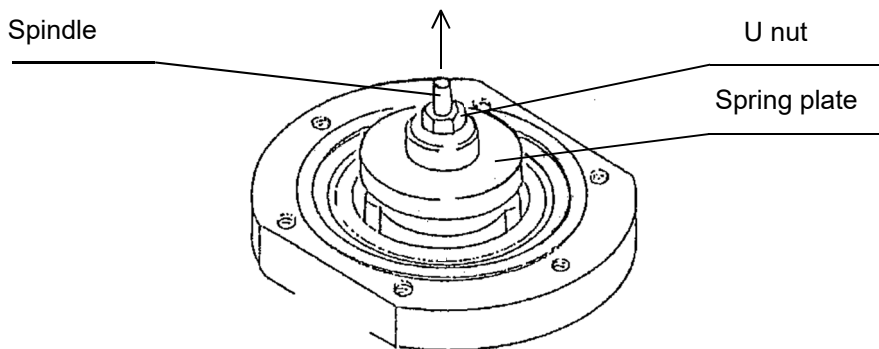
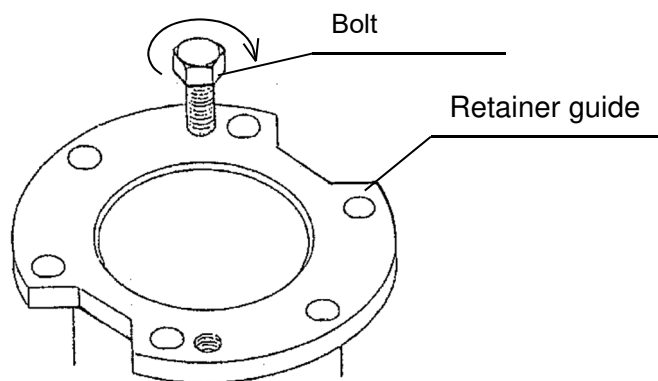

Fig. 13
Fig. 14
- (1) Before leading fluid into the product, close the stop valves at the inlet and outlet of the product and remove foreign substances and scale from the piping completely by using a bypass line.
- (2) To adjust the set pressure, turn the adjusting screw slowly.
- (3) If closing outlet side of the product and keeping fluid inside the product for an extended period, sliding parts become stuck and it causes malfunction of the product.
- (4) If there is a possibility of freezing or the product is not used for an extended period, completely discharge fluid from the product and pipes, and close the stop valves at the inlet and outlet sides of the product.
- (5) If the systems have been out of service for a long time, please perform the following operational checks before restarting the systems.
- Check if the set pressure changes when turning the adjustment screw (see Fig. 13).
- (6) In case of primary pressure for size 65A to 150A is unstable because of an air obstruction or etc. adjust opening of needle valve at detecting pipe. It is fully opened at the time of shipment.
- (7) The set pressure may be affected by ambient temperature (external temperature) and fluid temperature. Install pipes so that the product may not be exposed to direct sunlight.
- (8) Follow the steps below, and slowly turn the adjusting screw to set pressure. Incorrect adjustment may cause hunting, water hammer, etc., resulting in damage to the valve and other equipment.
- (1) Release the internal pressure completely, and make sure of zero pressure.
- (2) Slightly loosen the lock nut [14] and turn the adjusting screw [13] counter clockwise to relieve the adjusting spring [12] (Unload the spring).
- (3) Remove the hexagon bolt [29] from the spring chamber [2], then remove the spring chamber, and take out the adjusting spring [14] and the spring plate [10].
- (4) To remove the diaphragm [9], fix the spindle [5] and remove the U nut [18].
- (5) To remove the retainer [6], loosen and remove the retainer guide [8] clamping bolt [16] and pull the retainer guide. Remove it by the bellow method (Fig.13, Fig.14) when it is difficult to remove the retainer guide].
- (6) To remove the valve seat [3], pull the spindle.
- (7) Fix two planar sections at spindle and loosen U nut for spindle to remove it, then the valve can be dismantled.
To remove the retainer guide [8] easily, install the spring plate [11] and U nut [18] to spindle [5] again and pull the spring plate. (Fig. 13)
To remove the retainer guide [8] easily, screw the bolt [18] to retainer guide and pull it. (Fig.14)